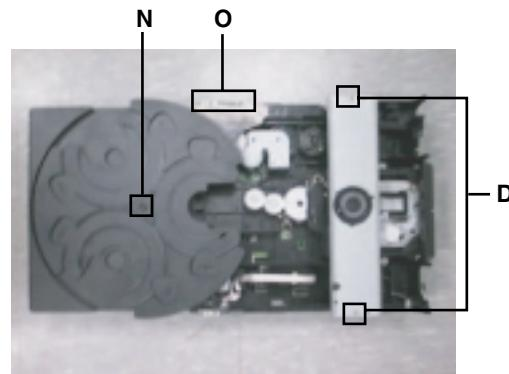

Fig.19
■ Replacing the CD turn table and removing the motor (See Fig. 19 and 20)